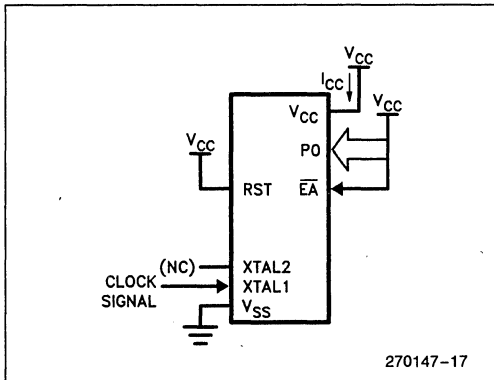

Figure 6. I_{CC} Test Condition, Active Mode. All other pins are disconnected.
- See Figures 6 through 9 for I_{CC} test conditions. Minimum V_{CC} for Power Down is 2V.